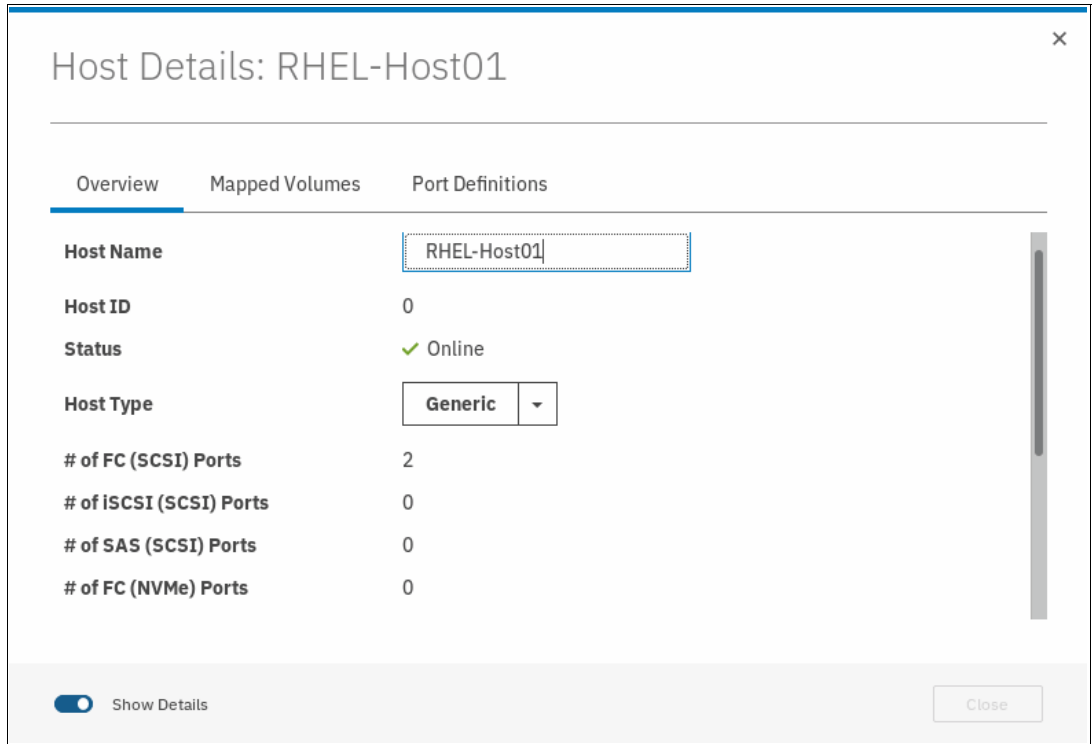

Figure 8-23 Host properties: Editing the host information
4. To change the host properties, click **Edit**. Several fields can be edited, as shown in Figure 8-23.